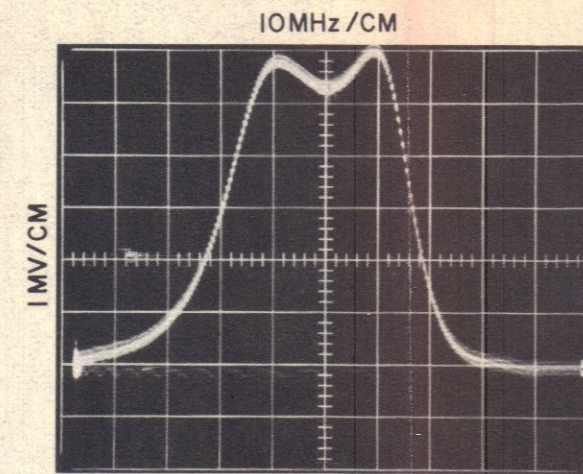
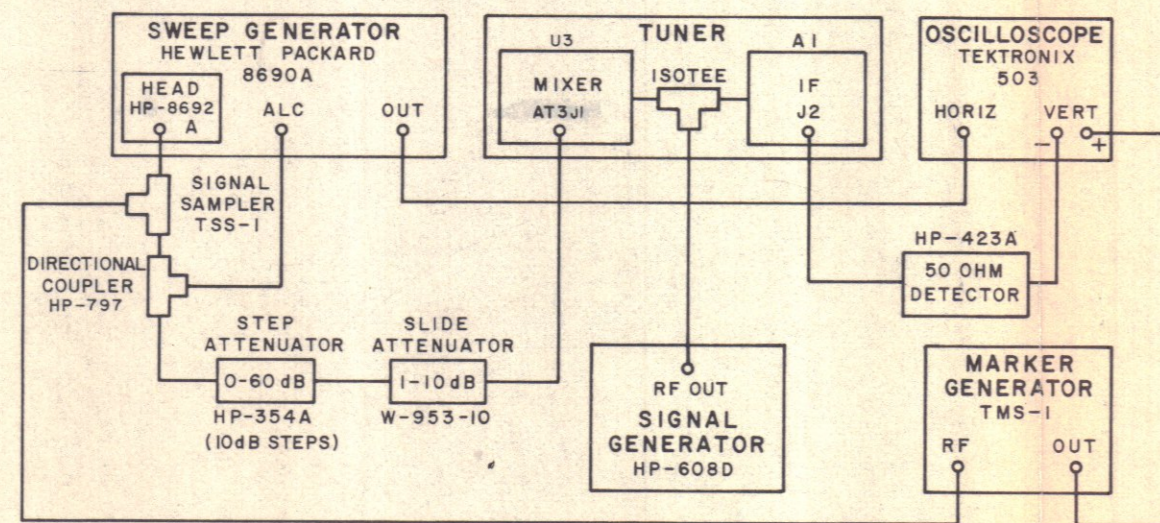
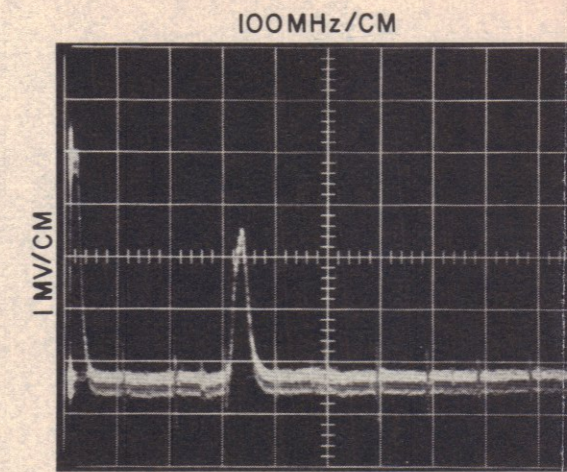

Figure 4-1c. Typical Response, IF Preamp
Figure 4-1b. Equipment Connections, Mixer, LO, IF Preamp (YIG Filter Bypassed)
Figure 4-1f. Typical Band Response, VFO to Tape Dial Tracking
- (1) Connect the equipment as shown in Figure 4-1b, page 4-12.
- (2) Set the sweep generator controls for a 2100 MHz  $\pm$  100 MHz sweep. Tune the TH-245B to 2100 MHz and adjust the oscilloscope and microwave attenuator controls to obtain a suitable display.
- (3) Set the HP-608 for 160 MHz markers and the TMS-1 for 10 MHz markers.
- (4) Adjust A2C11, A2C9, A2C16, and A2C22 for a maximum amplitude symmetrical response centered about the 160 MHz marker. A typical response is shown in Figure 4-1c, page 4-12.
- (5) The bandwidth should be a minimum of 22 MHz and a maximum of 25 MHz at the 3 dB points.
- (6) Tune the sweep generator and TH-245B simultaneously throughout the band and note the response variation. If excessive tilt occurs anywhere in the 2-4.5GHz band, a slight compromise in the settings of step (4) adjustments should be used to obtain the flattest overall response.
- (2) Tune the TH-245B to 2000 MHz and carefully loosen the setscrews in the flexible coupling which connects the VFO to the gear train.
- (3) Adjust the sweep generator controls to sweep from 2 to 4.5z GHz and the oscilloscope and attenuators to display a response similar to Figure 4-1f. Set the TMS-1 for 100 MHz markers.
- (4) Identify the response that is lowest in frequency. Without moving the tape dial from 2000 MHz, carefully rotate the VFO tuning shaft and move the response to the 100 MHz marker representing 2000 MHz.
- (5) Set the sweep generator for a narrow sweep mode of 2000 MHz  $\pm$  100 MHz.
- (6) As in step (4), carefully center the response about the 2000 MHz marker. Figure 4-1c shows a typical response. Tighten the flexible coupling setscrews.
- (7) Adjust the sweep generator controls for a 4500 MHz  $\pm$  100 MHz sweep. Note the relationships between the displayed response and the 4500 MHz marker. If the response is not centered, loosen the setscrews in the flexible coupling and carefully rotate the VFO shaft to remove one half of the error. Tighten the setscrews. The tape dial to frequency error should be no more than 1%, i. e.,  $\pm$  45 MHz at 4500 MHz and  $\pm$  20 MHz at 2000 MHz. Errors in excess of this indicate a faulty VFO. With the end frequencies set correctly, the VFO to tape dial tracking should be satisfactory.
- (8) Verify the correct VFO to tape dial tracking at 200 MHz intervals throughout the band by identifying the correct marker, adjusting the sweep generator and TH-245B tuning to the correct frequencies, and noting the response to frequency marker relationships.